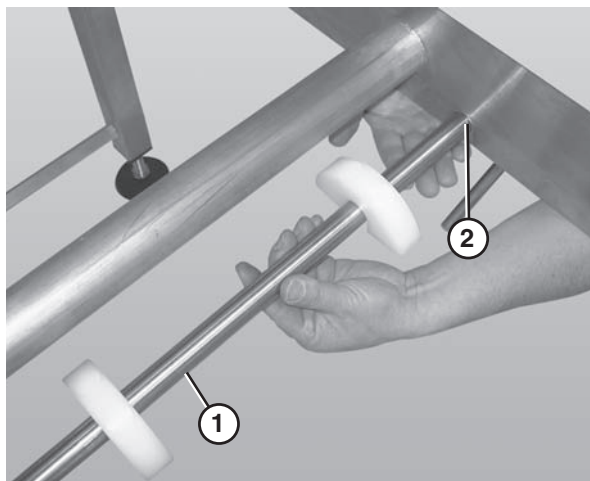

Figure 39
- Slide the return shaft (**Figure 39, item 1**) up and through the large slot (**Figure 39, item 2**) in the frame (picture shown without the belt or wear strips).
- Push up on the return shaft (**Figure 39, item 1**) and slide the notched end of the shaft through the small slot on the opposite side of the frame.